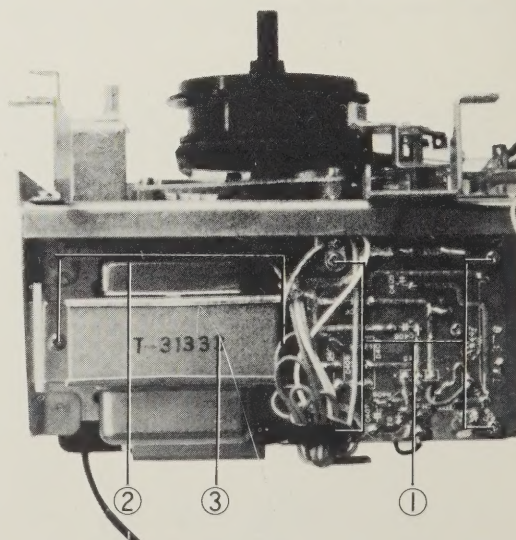

Fig. 9
- 3) Power circuit board (Fig. 9)
#### 4. Removing power transformer (Fig. 9)